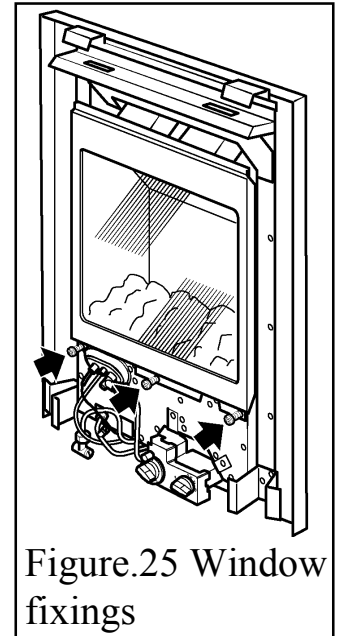

Figure.25 Window fixings
- Unscrew and remove the three spring-loaded window-fixing screws and washers from the base of the window frame. See figure 25.